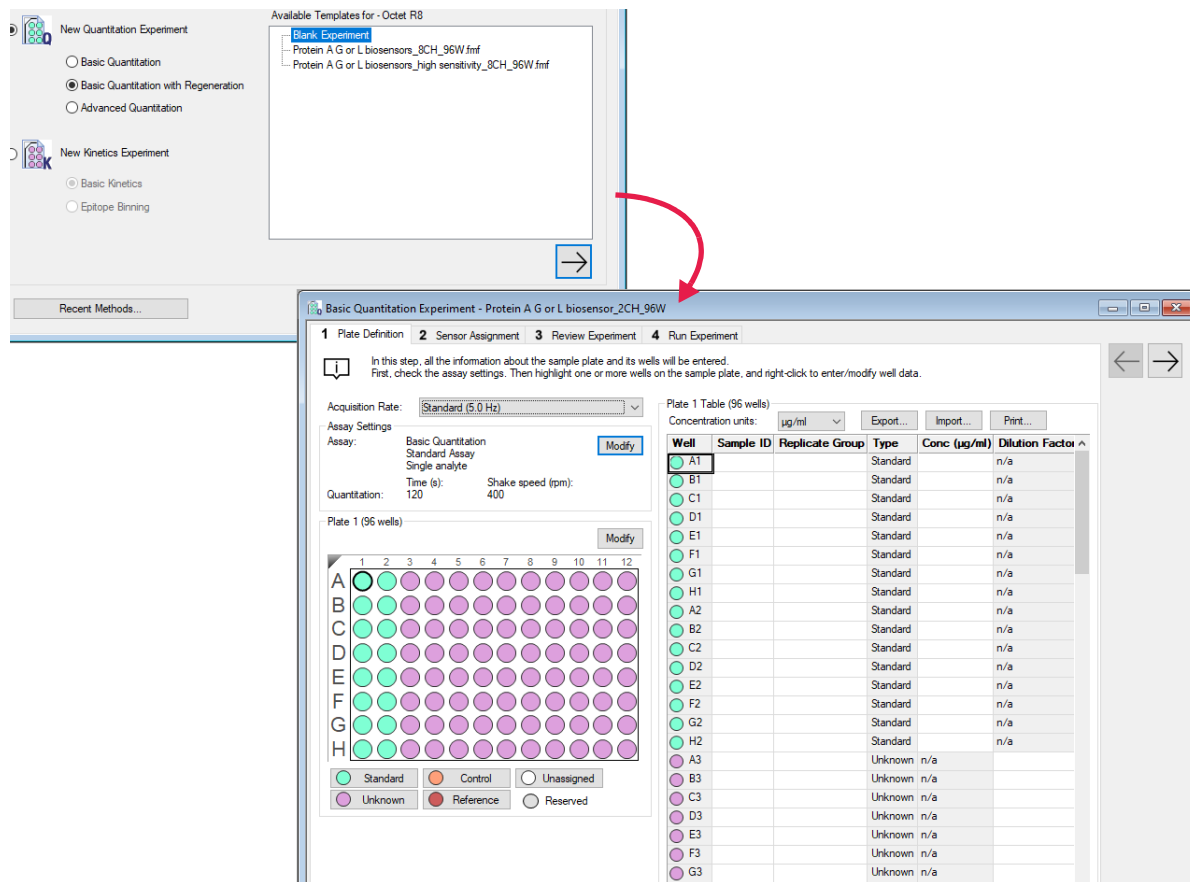

Figure 6-1: Selecting an Experiment Type in the Experiment Wizard
2. In the **Experiment Wizard**, select **New Quantitation Experiment** (see Figure 6-1, left).
The **Experiment** dialog box appears (Figure 6-1, right).